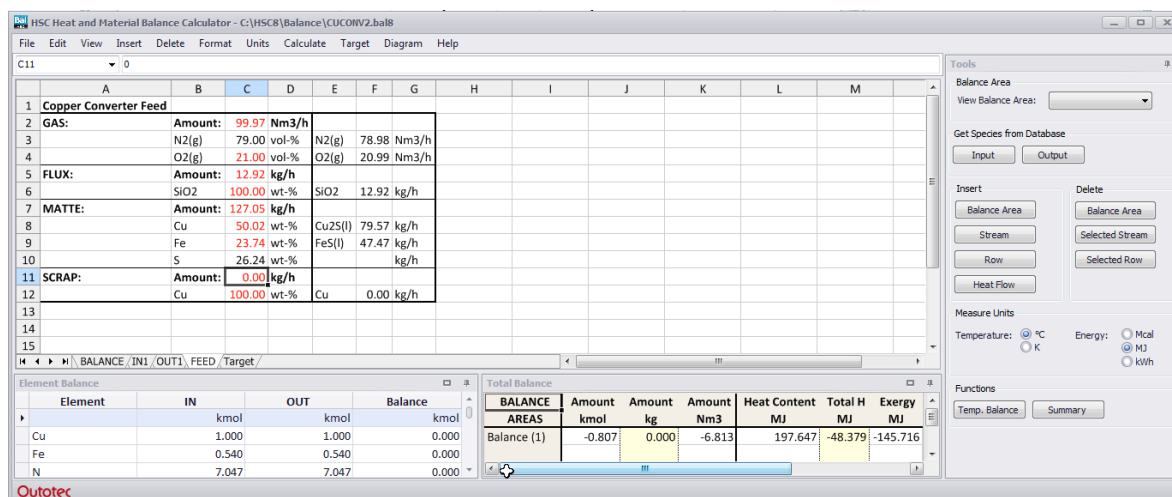

Fig. 6. Additional sheets can be added to the Heat Balance workbook.
The example in **Fig. 6** shows a FEED sheet, which is used to specify the raw material amounts in the IN1 sheet. The user can give the compositions and amounts in column C, and this data will then be used to calculate the amounts of species in column F. The material amounts in IN1 sheet are given using relevant cell references to column F in the FEED sheet. This example can be found in your HSC8\Balance directory under the name CUCONV2.bal8. The user can construct the layout of the additional sheets freely.
2. Select the variable cell and press **Set X-cell** from the dialog. Select, for example, cell C11, see **Fig. 6**.